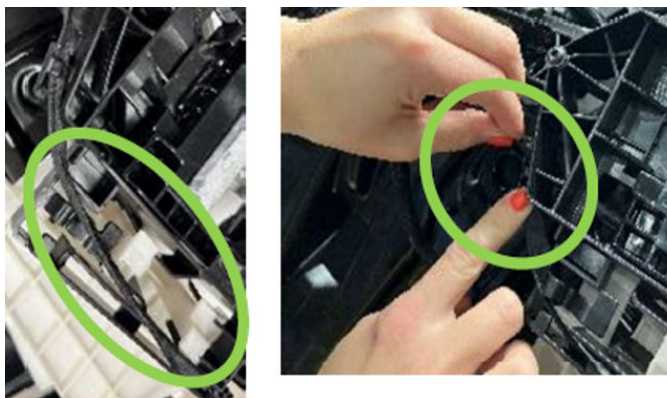

Fig. 43
47. Secure the wire harness into its harness retention Fig. 43.